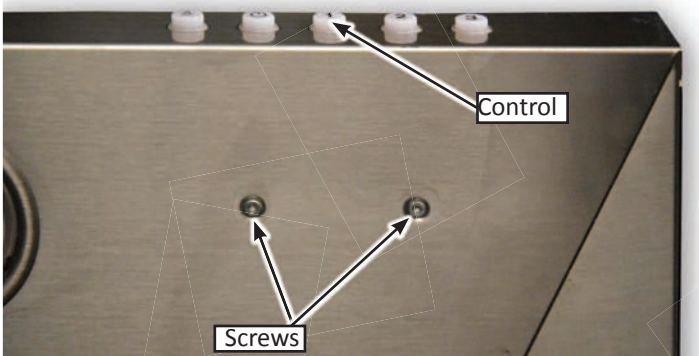

Figure 1
3. Remove (2) T10 Torx screws from the right underside of the light panel, see figure 1.